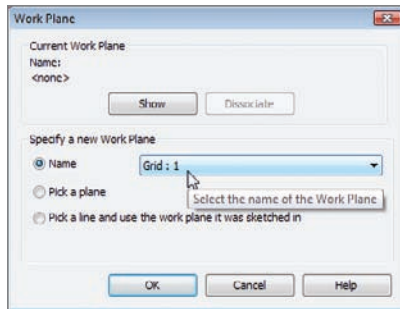

FIGURE 8.45 Specifying Grid : 1 as the work plane for the bracing
7. After you select the Brace button, Revit will display a dialog asking you to specify a work plane. In the Name drop-down list, select Grid : 1, as shown in Figure 8.45, and then click OK.